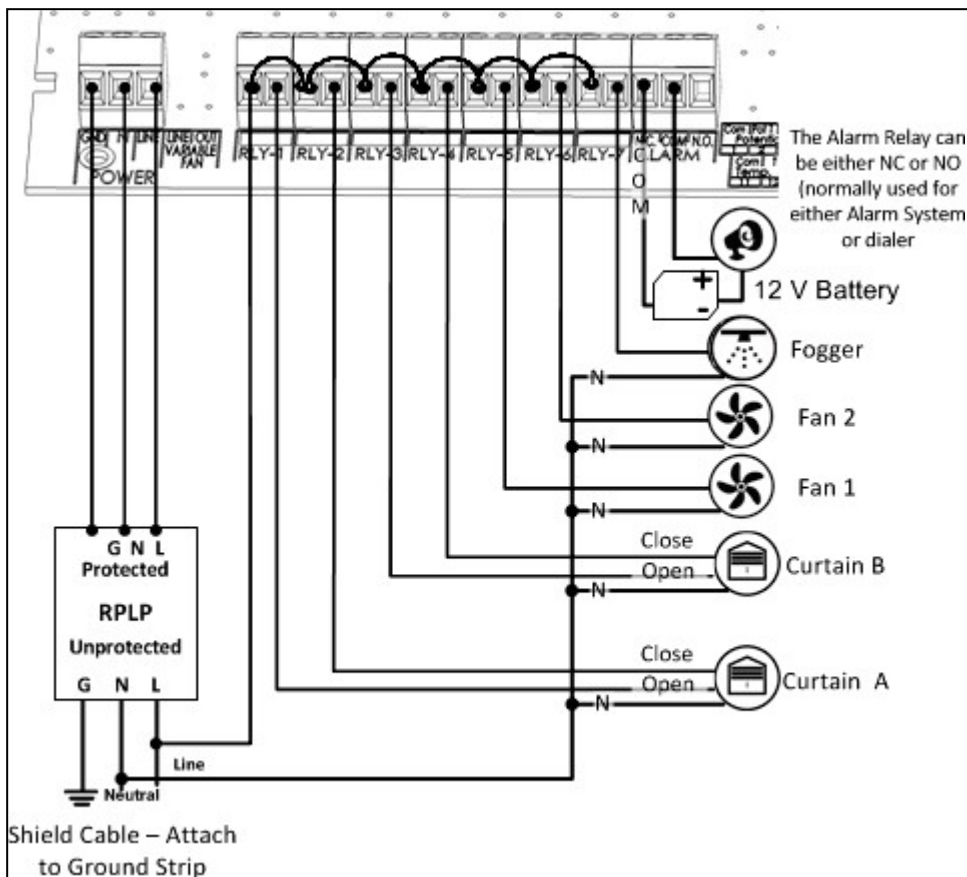

Figure 11: Wiring Diagram of Main Voltage Section and Protection (Type C)
- Figure 11: Wiring Diagram of Main Voltage Section and Protection (Type C)